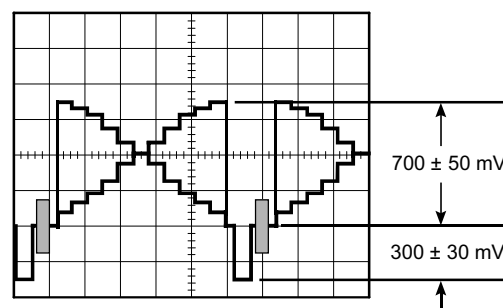

Fig. 4-14
- Adjust data with the **ARROW** keys so that the Video Output signal level becomes 700 ± 50 mV as shown in Fig. 4-14.